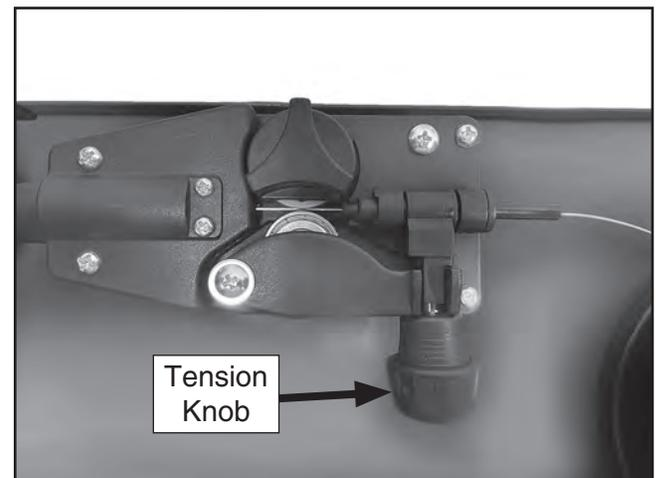

Figure 14. Wire feed driver with wire installed.
8. Move tension arm against wire, then flip tension knob down to secure tension arm in place (see **Figure 14**).